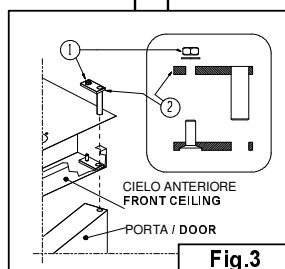

Fig.3
- Per estrarre la porta (**Fig.3**), togliere il dado **Pos.1**, e la piastra **Pos.2**
-To remove the door from its housing (**Fig.3**), unscrew the bolt **Pos. 1** and remove the plate **Pos. 2**.